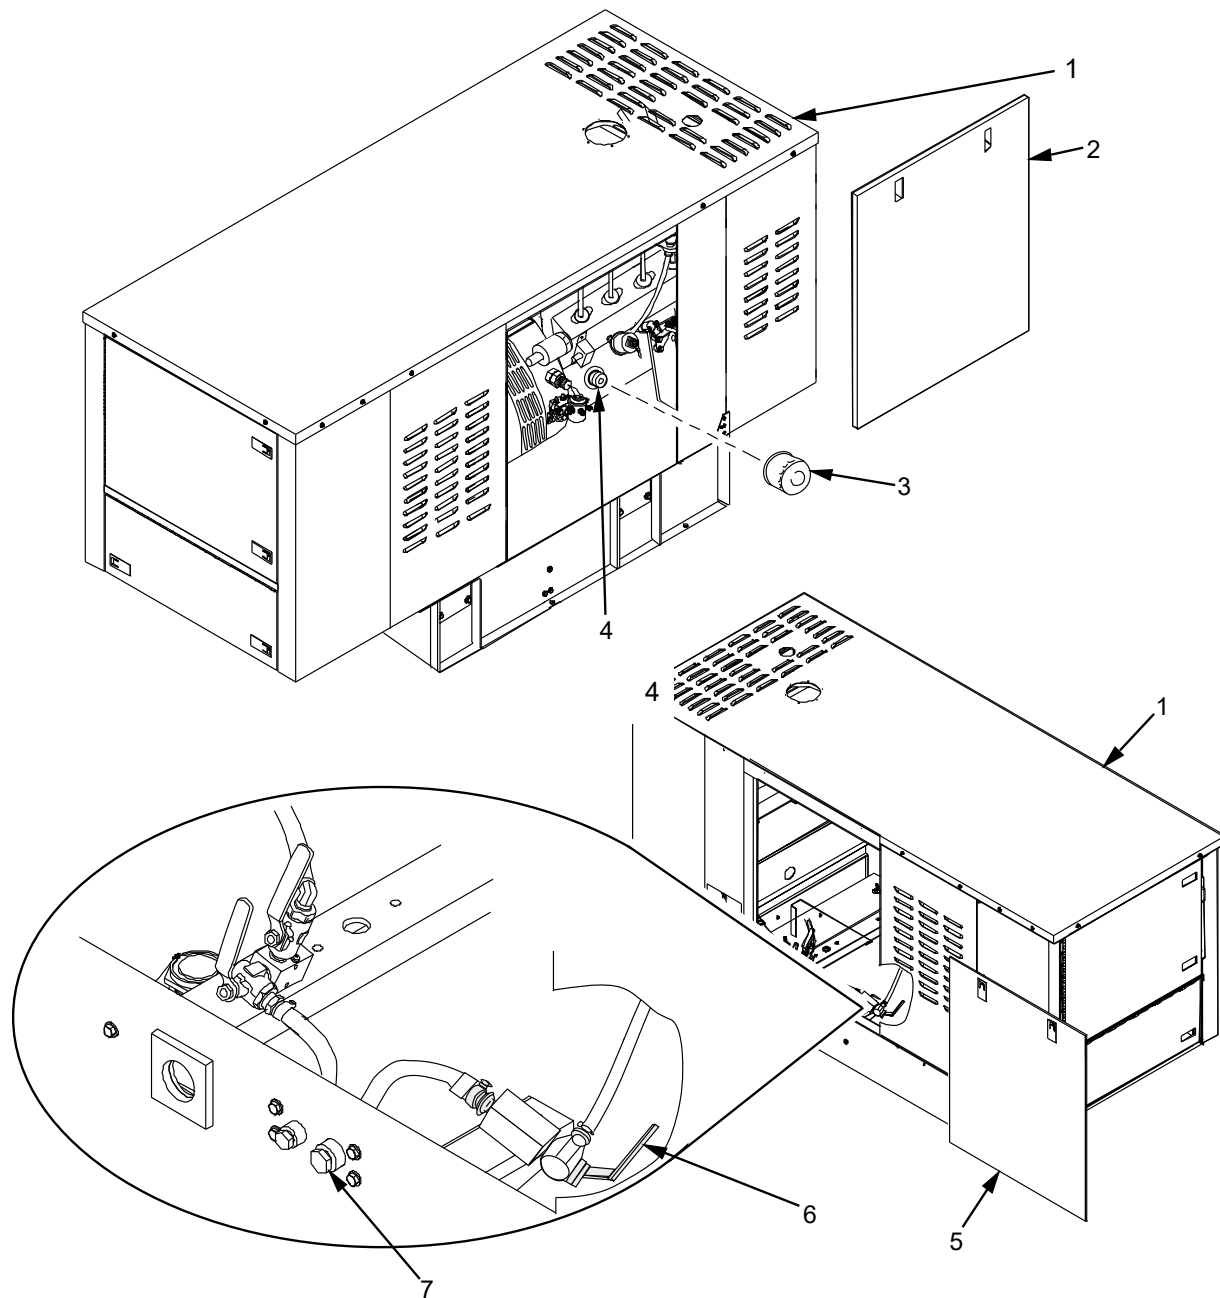

Figure 1. Oil and Filter Removal/Replacement and Oil Drain Plug.
15. Install front and rear access panels (Figure 1, Items 2 and 5).